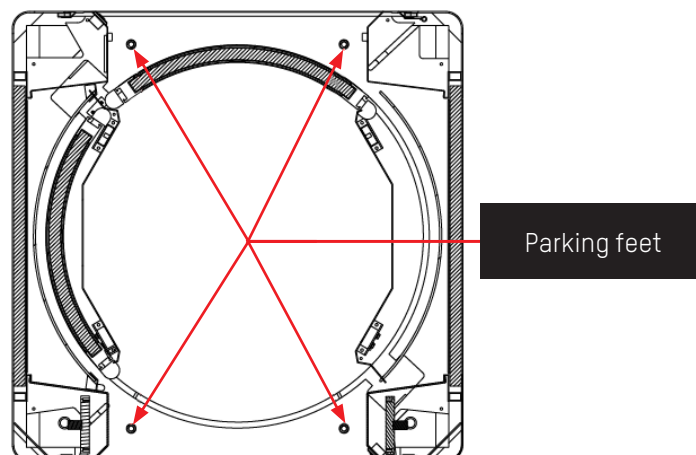

Fig. 19 - Parking feet
3. Stabilize the booth in the ground so that it does not move, by using the parking feet (1-2-3-4) that are situated under the four caps placed on the rubber floor (⇒ Fig. 19). The stability is strictly necessary for a good functioning of the booth.